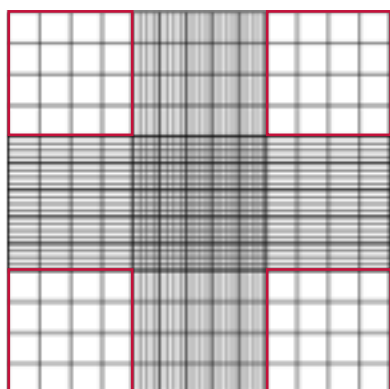

Fig. 1: Neubauer hemocytometer
3. Count the number of cells in each of the four outer squares highlighted in red of figure 1. Calculate the mean number of cells per red square.
4. Calculate the number of cells corrected by chamber factor (1 x 10⁴), dilution factor (2), and total volume of cell solution (e.g., 1 ml).